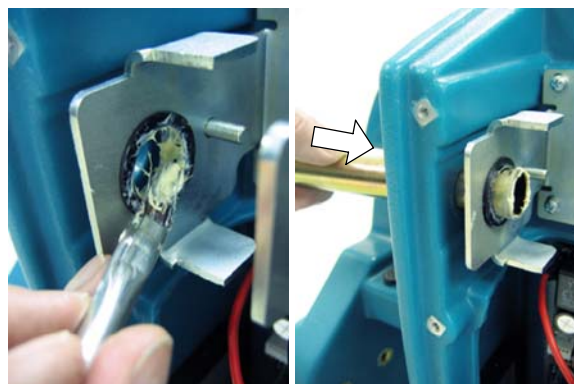

Fig. 10
- a. Apply grease to the inside of the new bushings and slide the handle part way into the housing as shown (Figure 10).